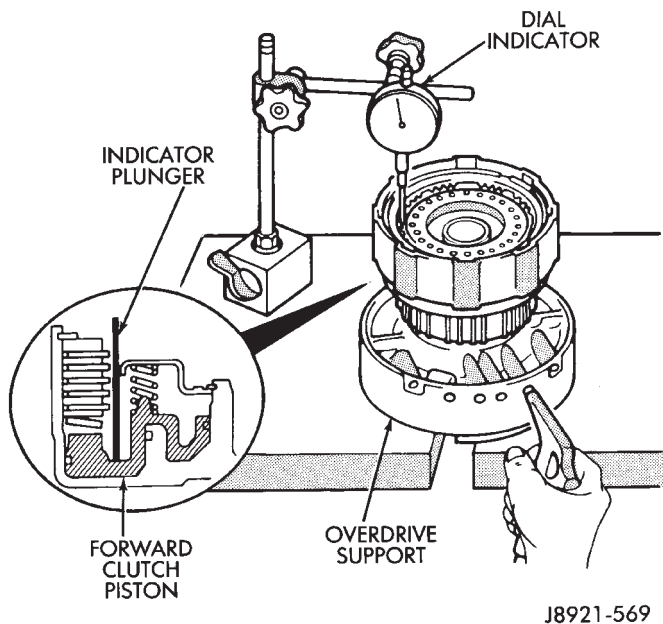
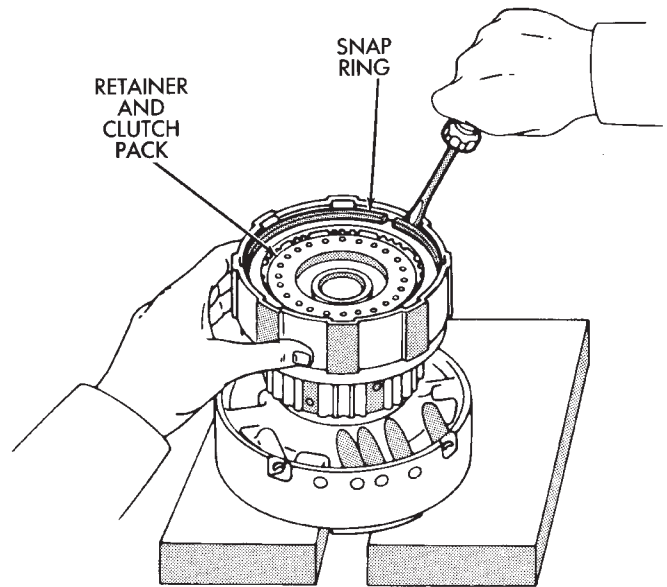

Fig. 3 Checking Forward Clutch Piston Stroke Length
Fig. 4 Removing Retainer And Clutch Pack
- (4) Mount dial indicator on clutch drum. Position dial indicator plunger against clutch piston (Fig. 3).
(5) Apply compressed air through right side feed hole in support and note piston stroke length on dial indicator.
(6) Stroke length should be 3.55 - 3.73 mm (0.1348 - 0.1469 in.).
(7) Replace clutch discs if stroke length is incorrect.
(8) Remove clutch pack snap ring and remove retainer and clutch pack (Fig. 4).